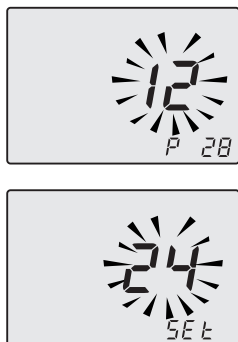

Fig. 9.4
- Use key 9 or 10 to modify the value of parameter 28 from **00** months to **48** months. The value **99**, which disables the maintenance request, is permitted. The writing **P28 - SEt** alternates on the display (Fig. 9.4).